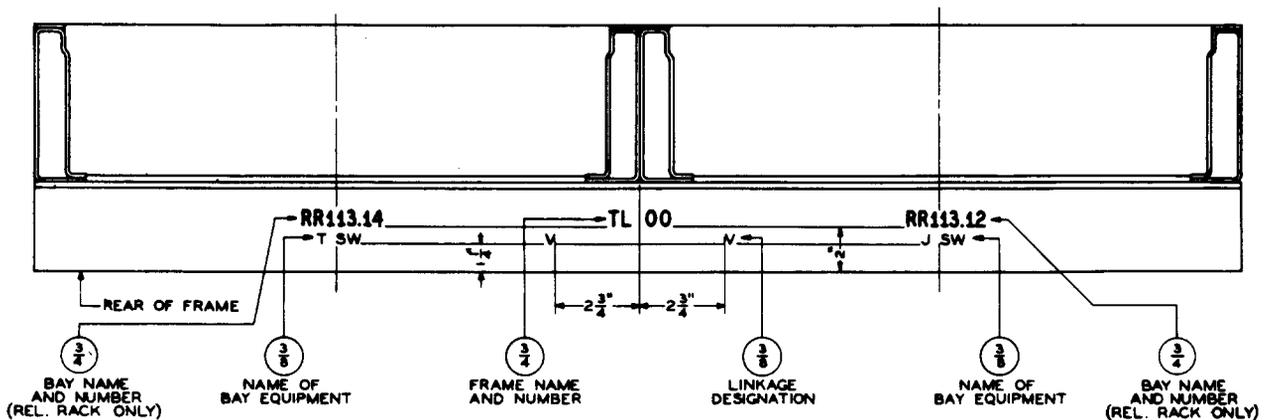
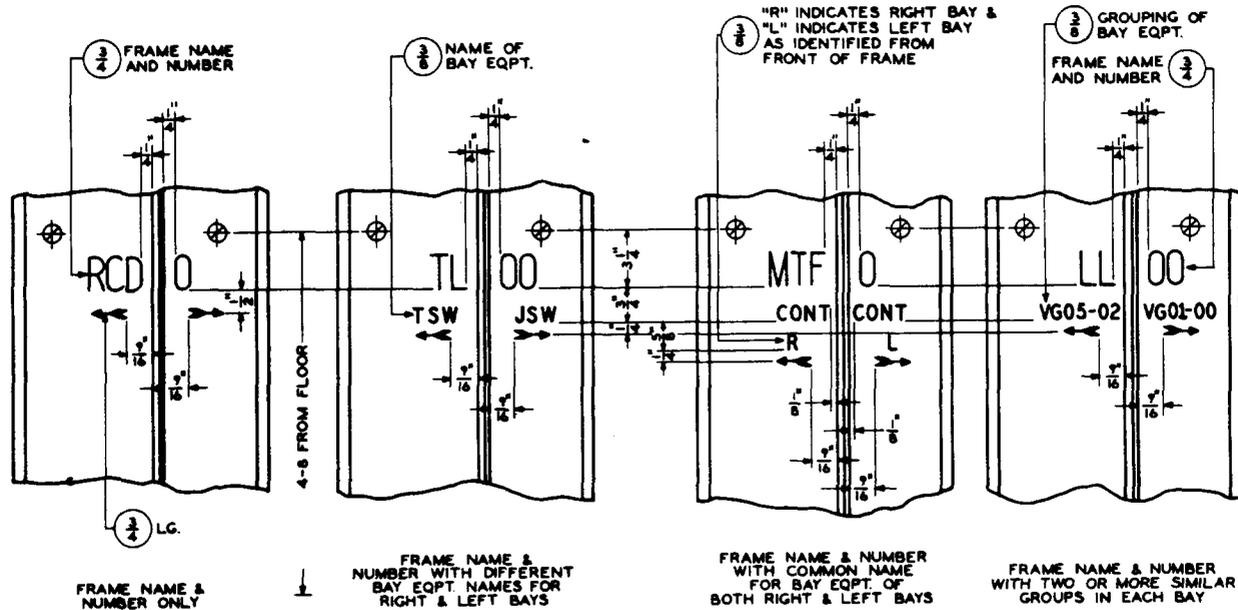

Fig. 12 - Plan View of Rear of Double-bay, Box-type Frame Base
Fig. 13 - Fixed Rear Covers (When Furnished) of Center Uprights, When Facing Rear of Frame, of Double-bay, Box-type Frames (Except Relay Rack)
- (b) *On the rear*, centered on the top surface of the frame base and on the fixed rear cover (when furnished) of the center uprights. (See Fig. 12 and 13.)
- (b) *On the rear* on the top surface of the frame base centered in each bay and on the fixed rear cover (when furnished) of the left upright of each bay. (See Fig. 12 and 14.)
- (b) *On the rear*, centered on the top surface of the frame base, as shown in Fig. 12, and on the fixed rear covers (when furnished) of the center uprights or left upright of each bay, as shown in Fig. 13 and 14, respectively.
2.25 Arrows on double-bay frames shall be stamped on the right and left sections of the fixed rear cover (when furnished) of the center uprights to indicate the bay to which the designation applies. (See Fig. 13.)
- (b) *On the rear*, located on the top surface of the frame base to the left and right of the junction of the two bays, as shown in Fig. 12.